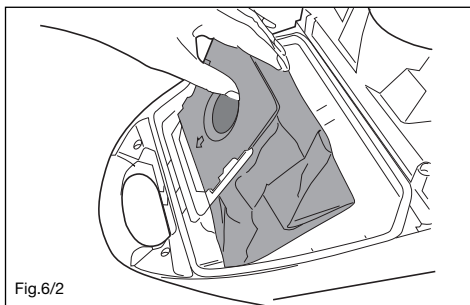

Fig.6/2
2. Push in the tab to unlock the bag from position and lift out. (Fig.6/2)